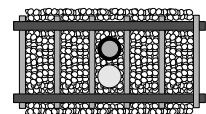
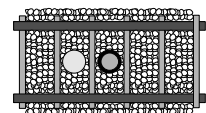
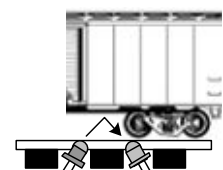

Figure 1a
Figure 1b
Figure 1c
This Infrared (IR) upgrade kit for the *Block Animator* supplements the original instructions for ALL versions of the product (BA-1, BAD-SBCA, BAD-CC). The instructions herein describe the installation of the IR components. An Infrared (IR) emitter and detector are used for bidirectional train detection. Detection is achieved when the IR beam from the emitter reflects off the underside of the train back down to the detector. **Despite the use of infrared components you could still encounter false triggering from overhead lighting. This is usually eliminated with angled sensor mounting (Figure 1c) and/or proper sensor sensitivity adjustment (page 2).** This version of the *Block Animator* must be powered from either a 7-9V AC or 9-12V DC power source (such as our 12VPSR). Do NOT exceed these limits! The layout of the signals and IR components is illustrated below.
The IR components should be mounted between the rails. Drill two 11/64" holes, approximately 1/4" apart, through the ballast, roadbed, and sub-roadbed. For the smaller scales this drilling may end up hitting the ties. Take your time so you don't mangle them! Figure 1a illustrates the suggested placement of the IR components between the rails; you may also locate them a tie apart from each other (Figure 1b). Insert the leads of one IR emitter (white and black wires) into one of the holes (it doesn't matter which one!) from the top of your layout. Repeat for the IR detector (blue and black wires). The tops of the components should sit no higher than the top of your ballast for optimal IR performance; in some cases (e.g. false triggering) it may be necessary to locate the components a little below the ballast line. You can extend the leads with similar (or larger) wire. We recommend soldering and insulating these connections. We also recommend using terminal blocks/strips since you'll have multiple DC and GND connections to make. Once you have wired the IR components and verified their operation you may wish to put a dab of white glue or silicone caulk where the wires exit the holes underneath the layout. This will help to hold the components in place; make sure you don't get any substance (e.g. ballast or glue) on the top surface of the IR components as this may prevent them from operating properly. **Figure 1c is a variation of Figure 1b. In this case the IR components are mounted at an angle to each other. The benefit of this method is reduced false triggering from overhead light and increased detection reliability in smaller scales or irregular bottoms on rolling stock.**